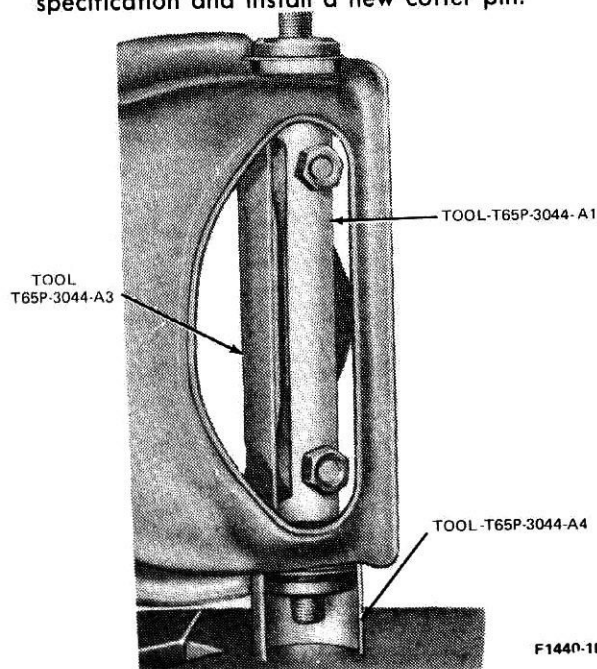

FIG. 6 Removing Upper Arm Bushings—Typical
2. Install Tool T65P-3044-A1 on the inner shaft and place Tool T65P-3044-A3 inside the upper arm around the inner shaft (Fig. 6).
3. Position the upper arm in an arbor press on Tool T65P-3044-A4 (Fig. 6), and press the lower bushing out of the upper arm. See tool application at the end of this Part under Specifications.